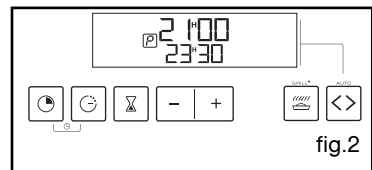

fig.2
- Remove the first clipped in glass as follows: Insert the other two red stops in the **A** locations provided for this purpose (fig.2).
The display will tell you at what time you can use your oven again (fig.2).
At the end of the self-cleaning cycle, the display will tell you (see (fig.2)).